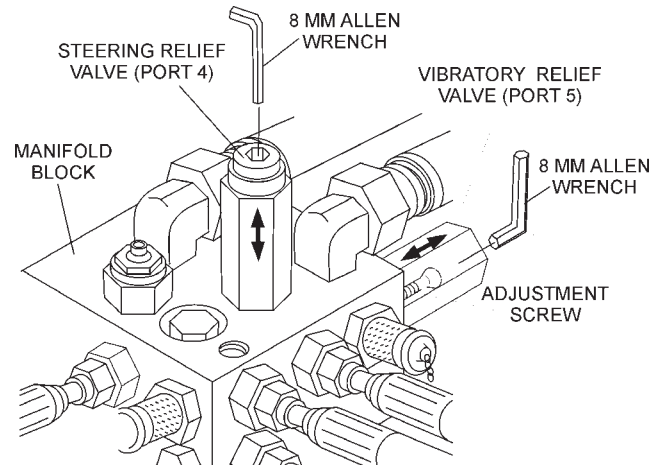

Figure 36. Steering and Vibration Relief Valves
1. Insert an 8 mm allen wrench into steering relief **port 4** (Figure 36) on the manifold block.
1. Insert an 8 mm allen wrench into steering relief **port 5** (Figure 36) on the manifold block.